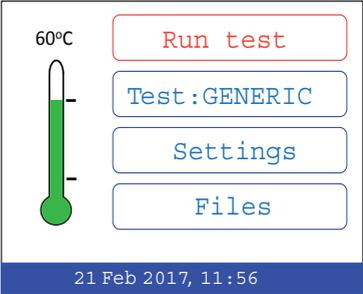

Fig. 7
3.2 Once the temperature of the plate has reached its target (60°C) the message will change to **Run test**. The indicator light and the thermometer on the touch screen will change to green. The temperature noted above the thermometer will be **60°C** (Fig 7).